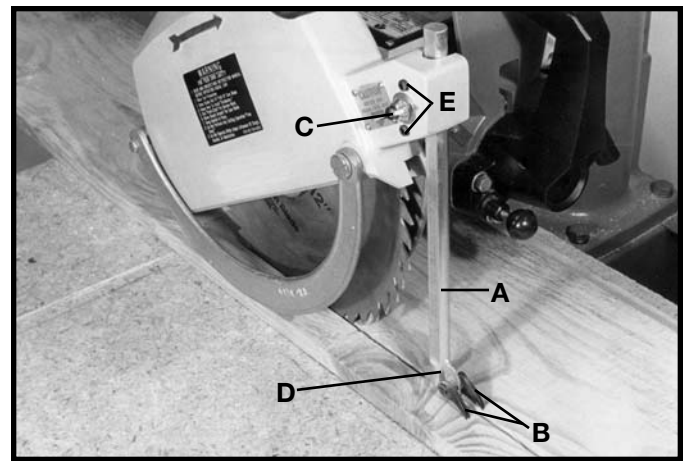

Fig. 57
On all ripping and plowing operations, the back part of the blade guard is lowered so that it just clears the material. This will prevent the material from being lifted off the table. Also, lower the kickback rod (A) Fig. 57, so that the kickback fingers (B) are below surface of material. Rod (A) can be raised or lowered by loosening wingnut (C), moving the kickback rod to the desired position and tightening wingnut (C). The kickback fingers (B) will then come into contact with the material, preventing “kickback.” The splitter (D) Fig. 57, should be in line with the saw blade. If an adjustment is necessary, **DISCONNECT TOOL FROM POWER SOURCE.** Rod (A) can be adjusted sideways by tightening or loosening two screws (E) Fig. 57.